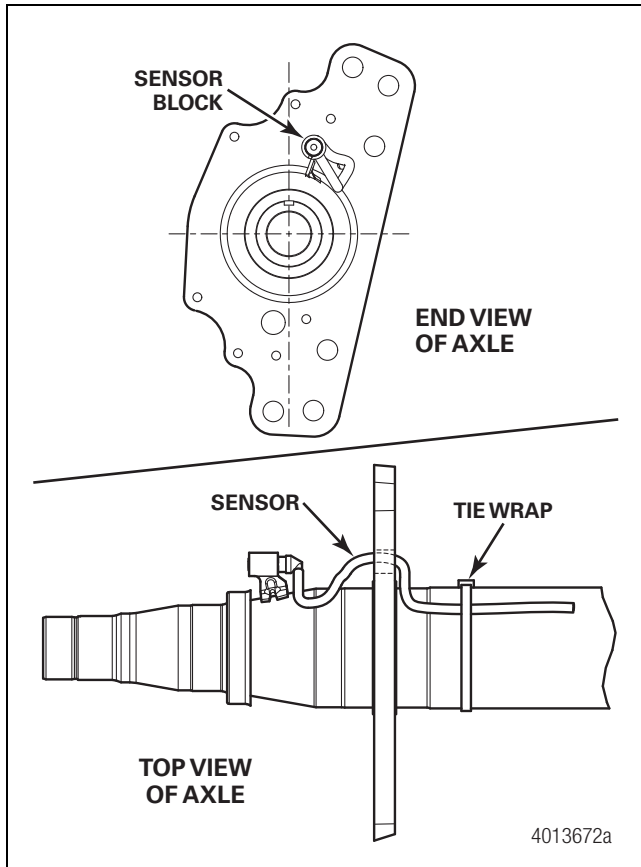
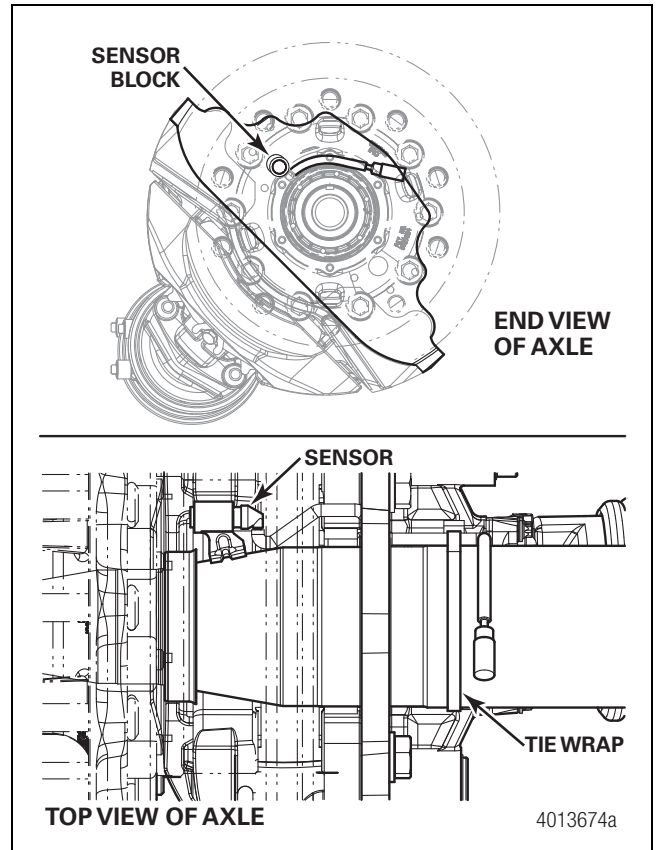

Figure 12.14
Figure 12.15
- **ABS block mounted on axle.** Refer to Figure 12.14 and Figure 12.15 for wheel ends using U-shaped rotors equipped with ABS tone rings with a 6.77" pitch circle diameter.